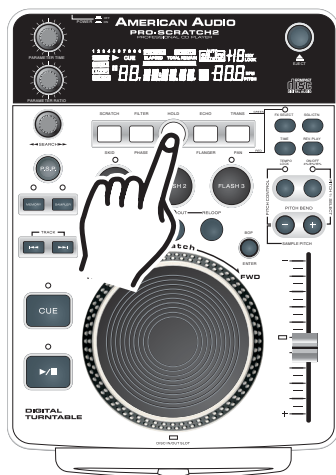

Figure 56
HOLD BUTTON: Use the *HOLD BUTTON (2)* to lock your customized parameters. If the hold button is not activated any changes to your parameters will be momentary. To activate the hold function press the *HOLD BUTTON (2)* as in figure 56. When the hold function becomes activated, the hold button will begin to glow blue.